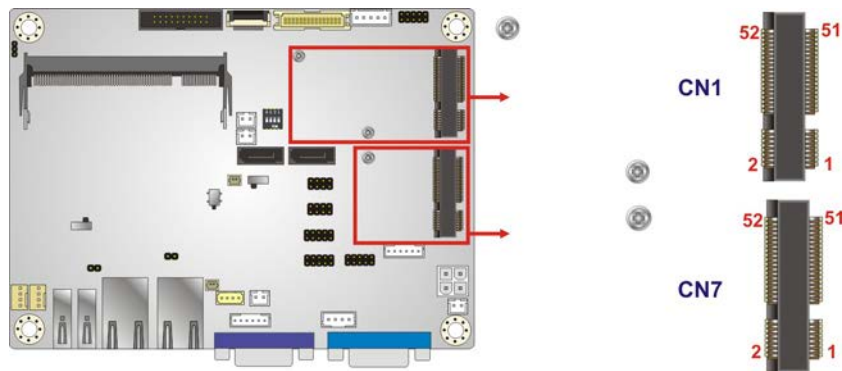

Figure 3-15: PCIe Mini Card Slot Locations
- CN Location:** See **Figure 3-15**